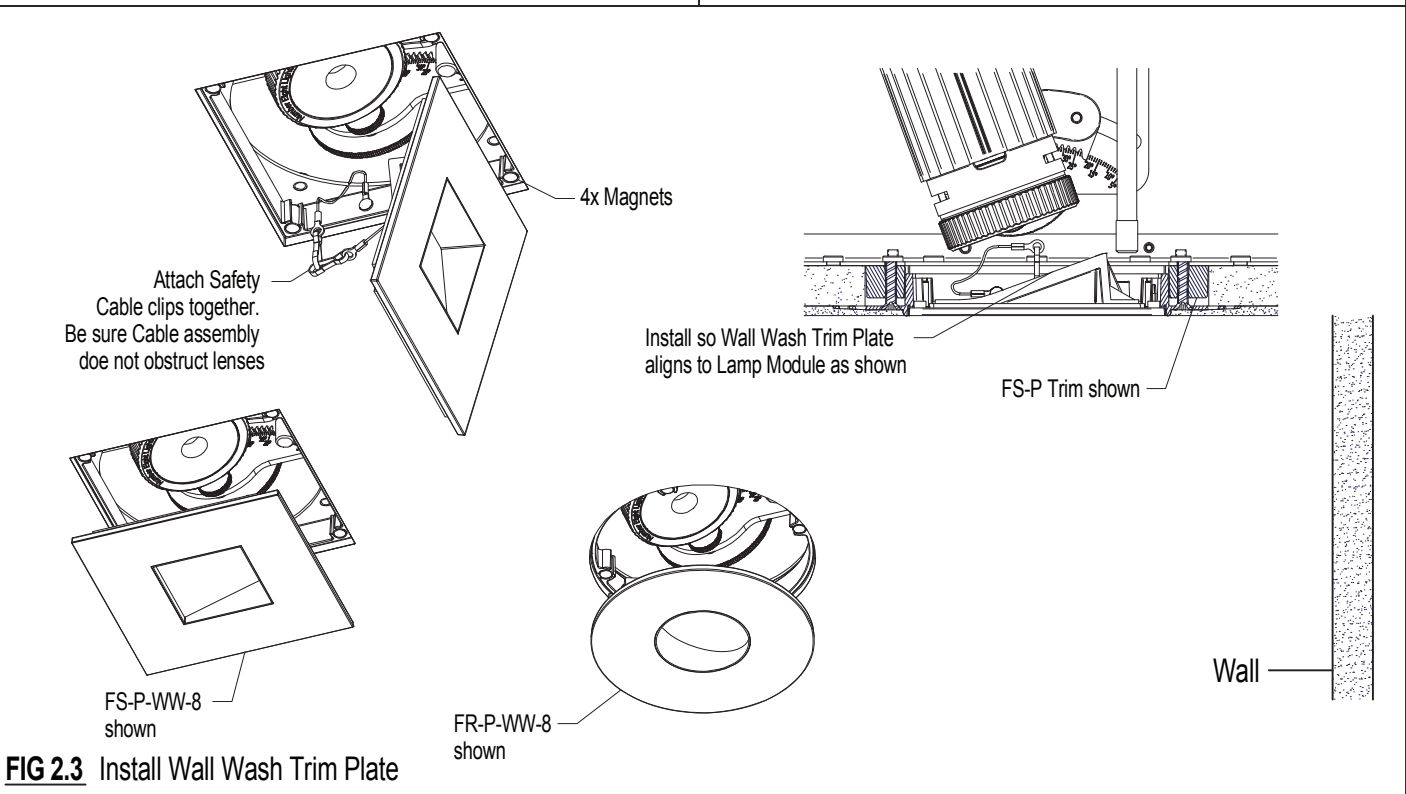

FIG 2.3 Install Wall Wash Trim Plate
Step 3 Orient & install Wall Wash Trim Plate into Trim as shown-FIG 2.3.